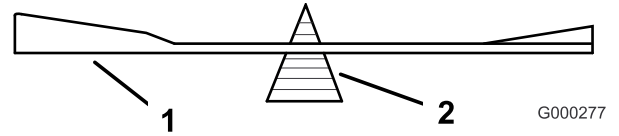

Figure 96
2. Check the balance of the blade by putting it on a blade balancer (Figure 96). If the blade stays in a horizontal